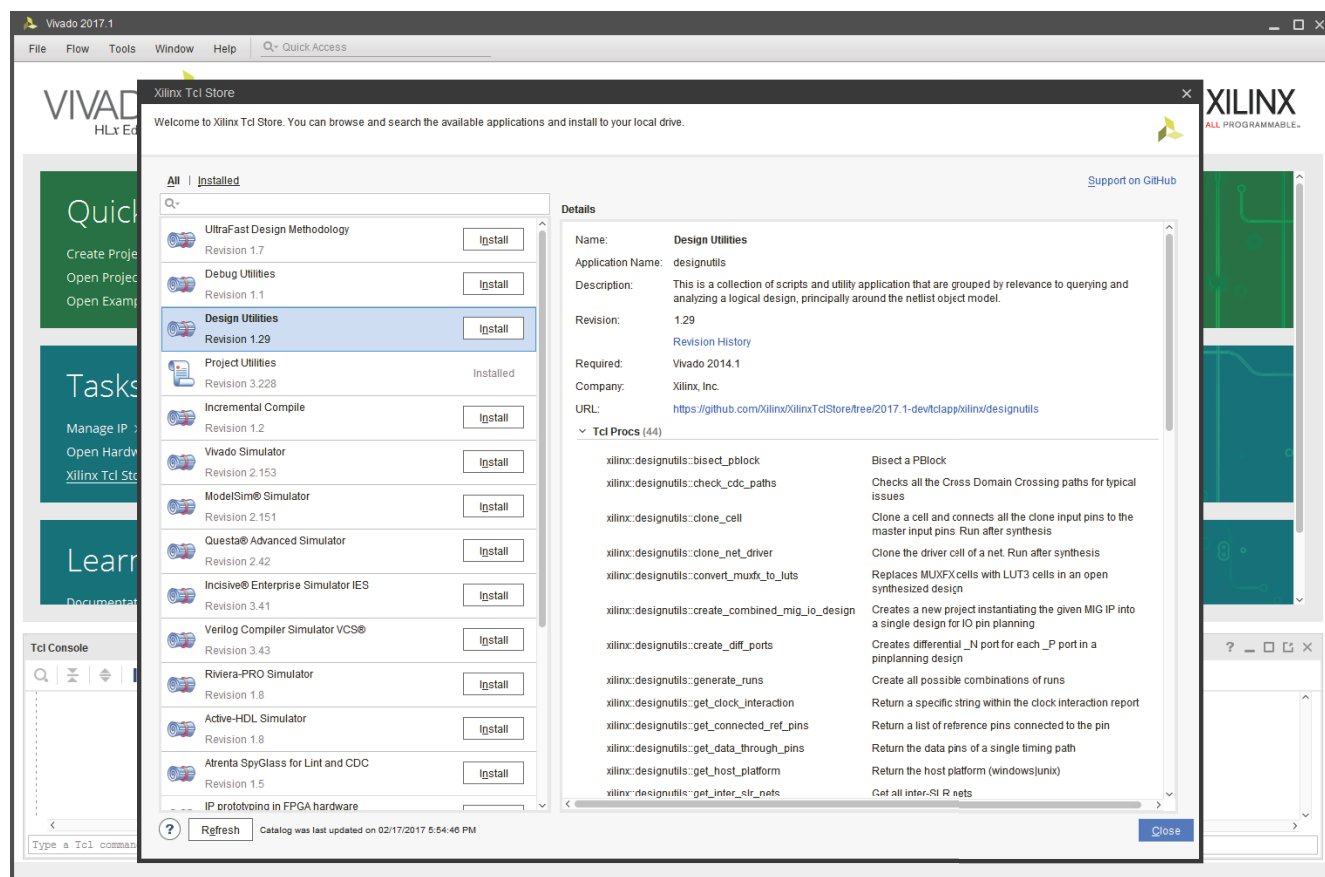

Figure 13: Xilinx Tcl Store GUI
- **Required:** The minimum required Vivado release version for the app to work (Vivado 2014.1 in Figure 13).